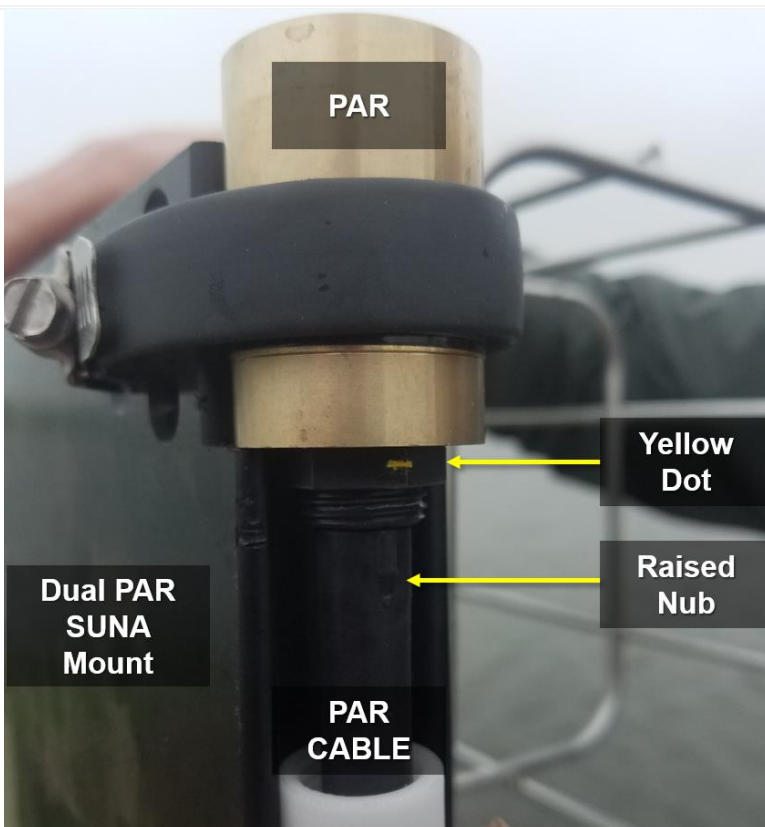

Figure 66. Align uPAR Sensor and Cable
STEP 8 | In the event the uPAR is not connected to its cable, use Figure 66 as a guide.